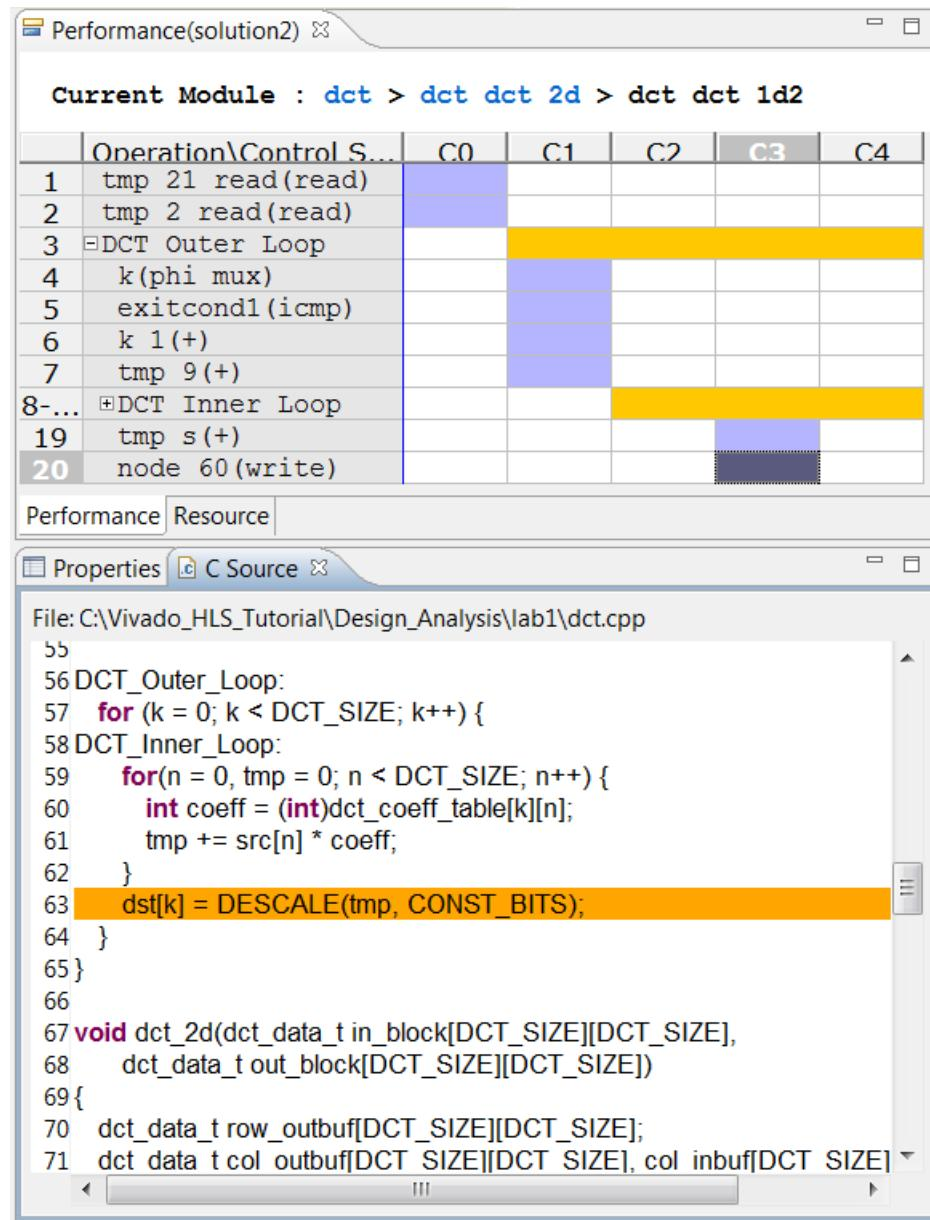

Figure 6-18: DCT Solution2 dct_1d Performance View
- In the Performance view, click loops `DCT_Outer_Loop` and `DCT_Inner_Loop` to view the loop hierarchy (Figure 6-18).
Figure 6-18 shows that this loop was not flattened because additional operations outside of `DCT_Inner_Loop`, at the level of `DCT_Outer_Loop`, prevented loop flattening. One of the operations that prevented loop flattening is highlighted in Figure 6-18, below.